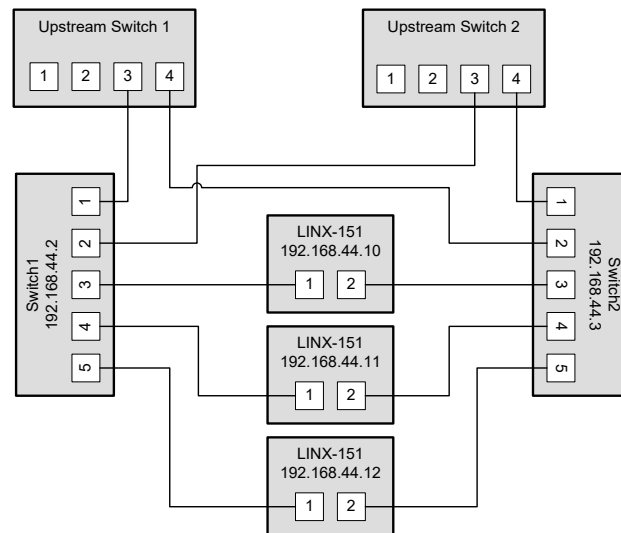

Figure 152: Fully redundant Ethernet topology
**Fully redundant topology:** Both Ethernet ports are connected to a different upstream switch. Thus, a single cable or upstream switch problem can be tolerated. This topology requires RSTP. In Figure 152, the L-IP with IP addresses 192.168.44.10 to 192.168.44.12 are connected in this way. This connection scheme increases switch and cabling costs, but increases network resilience. Note that the upstream network is connected via the lowest-numbered ports. If this is not possible, the ports need to be configured to the lowest STP port priority value (which is the highest priority).
**Redundant upstream connection:** Switch1 and Switch2 are both connected to the upstream network, either to two ports on the same switch or to two redundant upstream switches. In this case, RSTP is needed to ensure a loop-free topology between the upstream switches, Switch1 and Switch2, so the RSTP domain includes the upstream network and the chained L-IP devices. The configuration of Switch1 and Switch2 need to ensure that they are not selected as the root bridge. If possible device communication should be bound to a separate VLAN and MSTP (Multiple Spanning Tree Protocol) should be employed to isolate the spanning tree operations. This topology is shown in Figure 152.
The following example shows the configuration commands for Switch1, Switch2 and the upstream switch (HP Procurve syntax) in the setup shown in Figure 152.